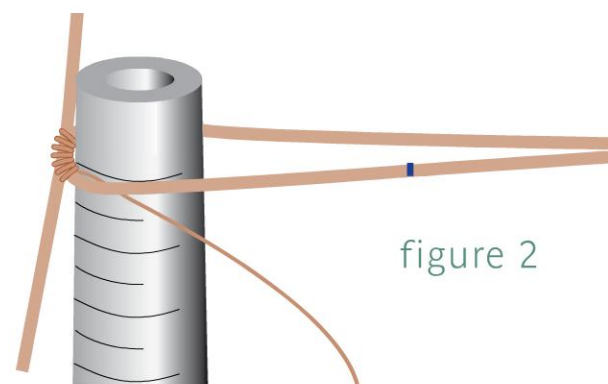

figure 2
- 5 Hold an outer frame wire of the coiled section against size 1 on the ring mandrel so the pen marks are visible. Shape the wire around the mandrel until its ends touch (Figure 2).